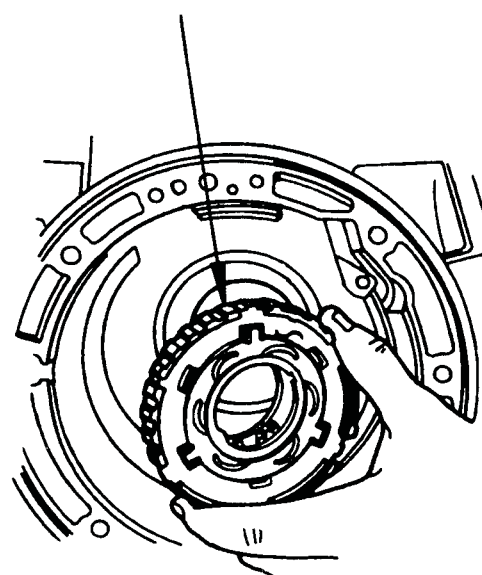

Figure 46
- (2) **REVERSE DRUM** - The 1st design Reverse Drum contains the *low roller clutch* and has the "Castles" on the front of the drum to accept the 10 lug, 4 pinion steel rear carrier, as shown in Figure 46. The 2nd design Reverse Drum contains the *low sprag clutch* and is machined to accept the multiple lug, 6 pinion steel rear carrier for the 4.0L models, as shown in Figure 46.